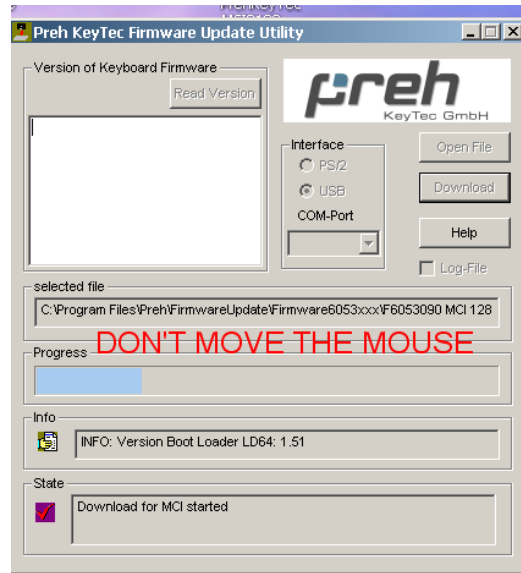

Figure 5
- 10) Follow same process as when downloading Bootloader. Be careful not to move the mouse or touch the keyboard during the download as noted in figure 5.